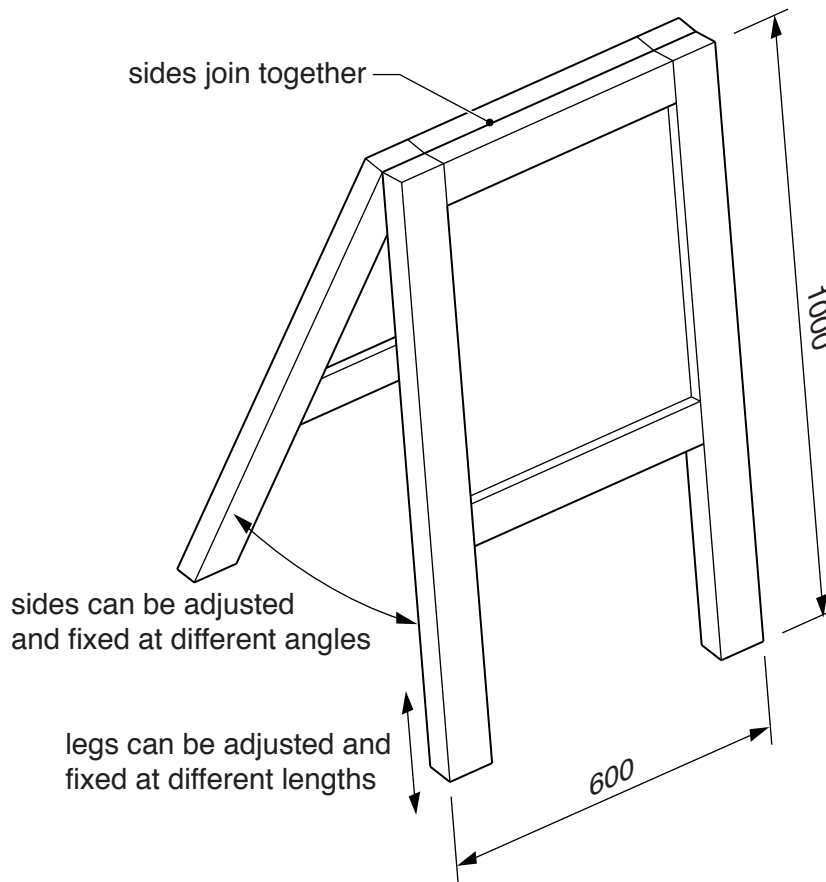

Fig. 10
- 9 Fig. 10 shows an incomplete design for a drawing and painting easel.